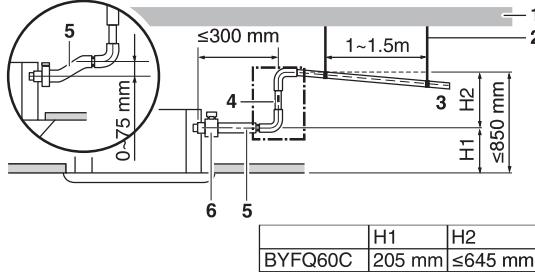

Fig. 19
- How to perform piping (See **Fig. 19**)